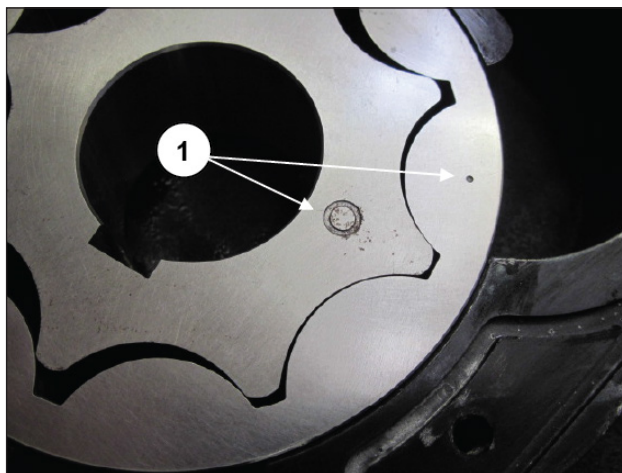

Fig. 152
When assembling the lube pump rotors orient the markings on the two parts as shown in Fig. 152 pos. ①.